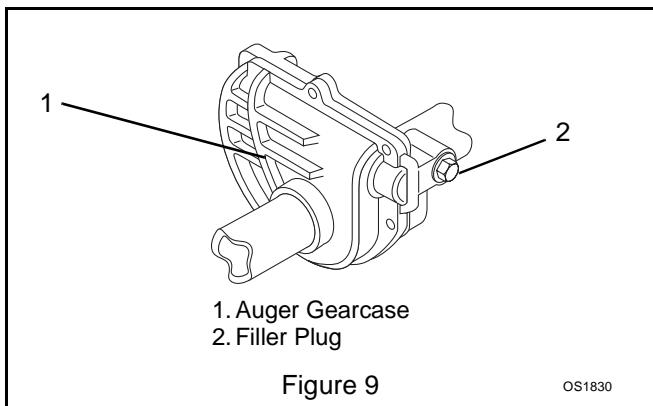

Figure 9
1. Remove filler plug (Figure 9). Lubricant must be at least up to bottom of lubricant filler hole with unit resting on a level-surface.